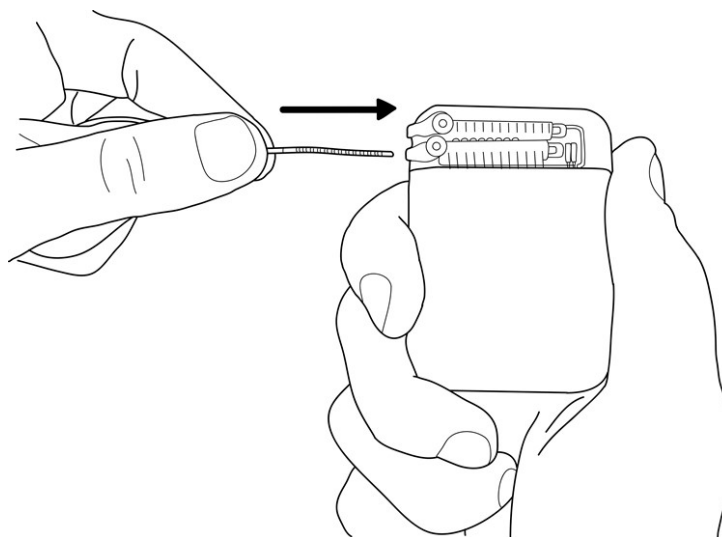

Figure 6.1: Inserting the proximal connectors into the CLS header.
2. Slide the proximal connector end of the lead into its port in the header of the CLS (refer to Figure 6.1).